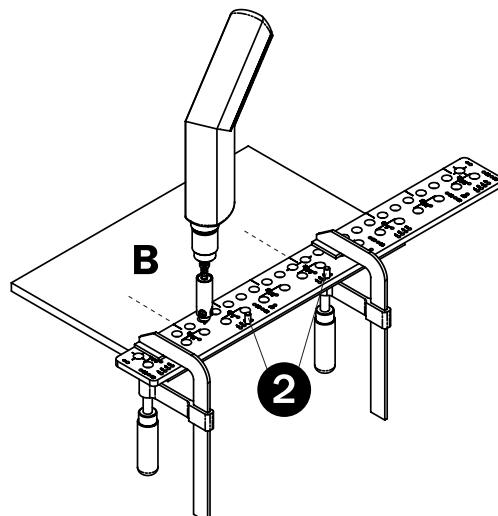

Fig. 16
Insert two pins (pos. 2) in one of the holes 3 - 6 (according to the chosen distance of the pivot from the edge) using the spacing corresponding to the hinge chosen (Fig. 16 & 17). Position the **CMT900** on the work piece, so that the central axis of the chosen hinge spacing on the template is aligned with the central axis on the work piece and the stops are up against front edge of the work piece. Use the **CMT400-1** adaptor chuck with a drill bit for blind holes with Ø3mm for wood screws, Ø5mm for euro screws or Ø8mm for fast plugs.